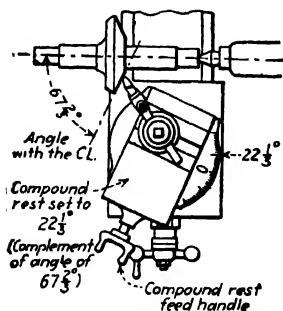

Fig. 16-13. Using compound rest for turning angles.
The Use of the Compound Rest for Turning Angles. The best method of turning an angle on a piece of work is to use a tool rest that may be swiveled on the cross slide to any desired angle. This tool rest is known as the *compound rest* (Fig. 16-13). The swivel plate of
To illustrate (1): Suppose a bevel gear blank is to be turned to an angle of 67 degrees 40 minutes with its axis, that is, 67 degrees 40 minutes ($67\frac{2}{3}$ deg.) with the center line. The complement of $67\frac{2}{3}$ deg. is $22\frac{1}{3}$ deg. Set the compound rest around $22\frac{1}{3}$ deg. from its normal position (Fig. 16-13).